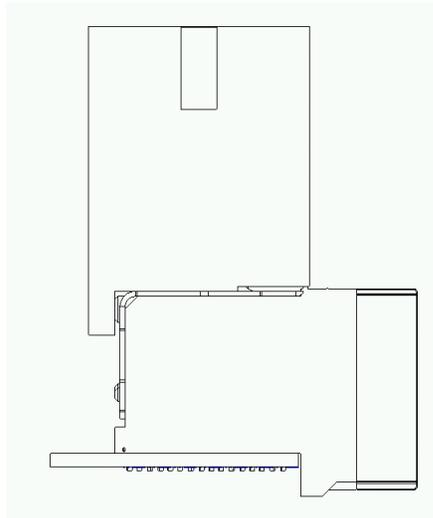
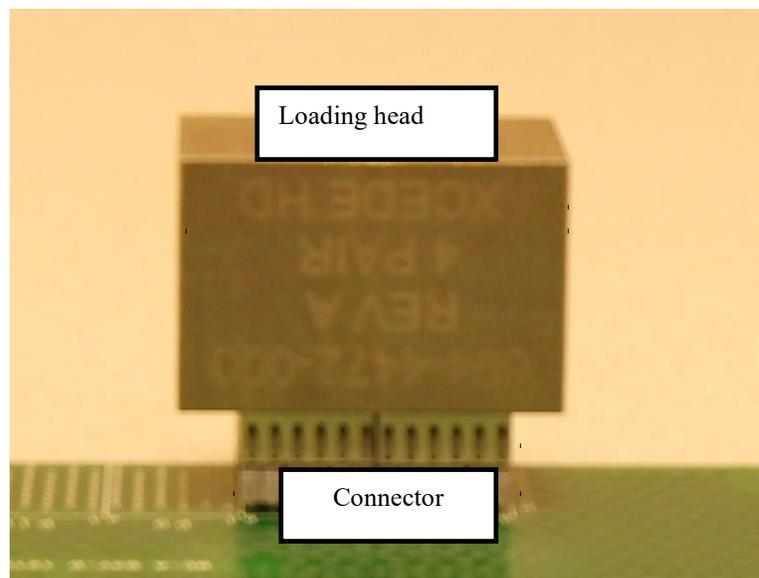

Figure 7. 4 Pair Loading Head and Module
Figure 8. Connector seating head extending over the edge of daughtercard connector
Step 8. Select the correct seating head based on the connector platform (2, 3, 4 or 6 pair) and the length of the connector (see Figure 7). Ensure the seating head at a minimum is the same length as the connector (see Figure 8). Position the seating head directly on top of the connector, ensuring the clearance slot is over the wafer "retention hats" and the rear alignment rib is against the stiffener back (see Figure 9).